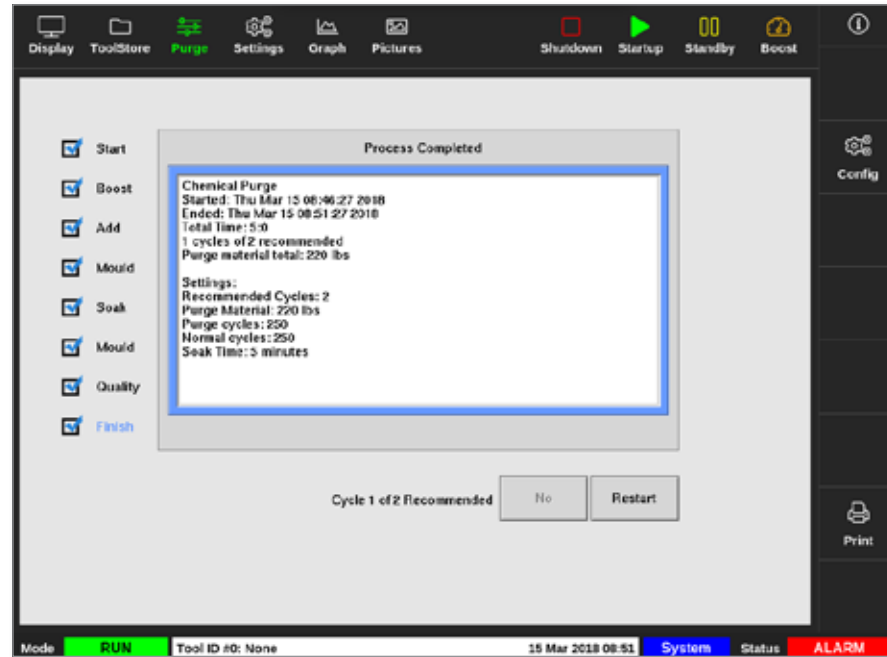

Figure 6-8 Chemical purge summary screen
8. Finish: the system displays a summary screen. See Figure 6-8.